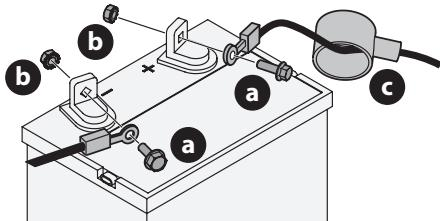

Figure 13
- If present, remove the plastic cover from the positive battery terminal. Attach the red connector to the positive battery terminal (+) using the bolt (a) and hex nut (b) (Figure 13).
- Position the red rubber boot (c) over the positive battery terminal to help protect it from corrosion (Figure 13).
- If present, remove the plastic cover from the negative battery terminal and attach the black cable to the negative battery terminal (-) with the bolt (a) and hex nut (b) (Figure 13).